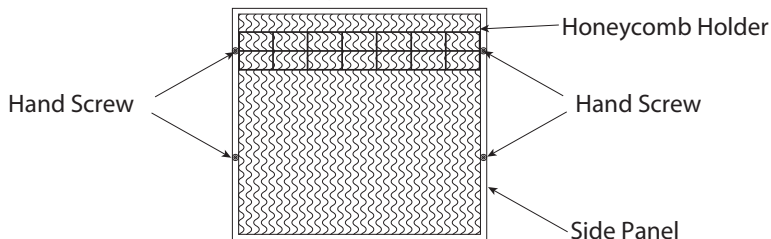

Fig.1
- To change the Honeycomb, remove the hand screws which hold the side panel (Refer Fig.1). Remove the Honeycomb holder and replace the Honeycomb. Refix the Honeycomb holder and screw back the panel to the unit.